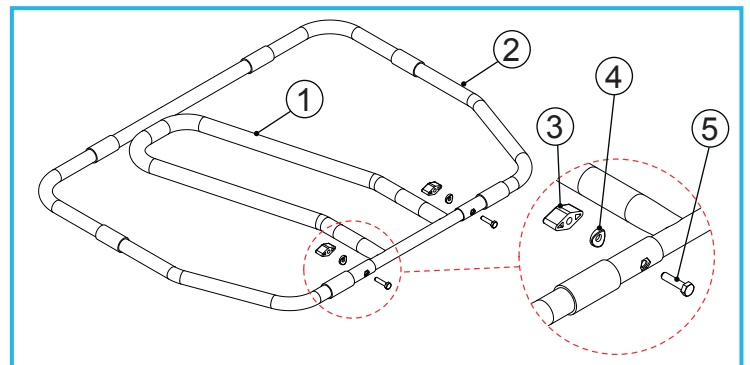

Figure 2: EasyFit Bed Rail Assembly
Refer to Figure 2. The bed rail handle (1) can be rotated in both directions, please make sure it is in the correct position for your installation.
1. Unscrew the two plastic wing-nuts (3), then remove the two plastic saddle-washers (4) and the two bolts (5).